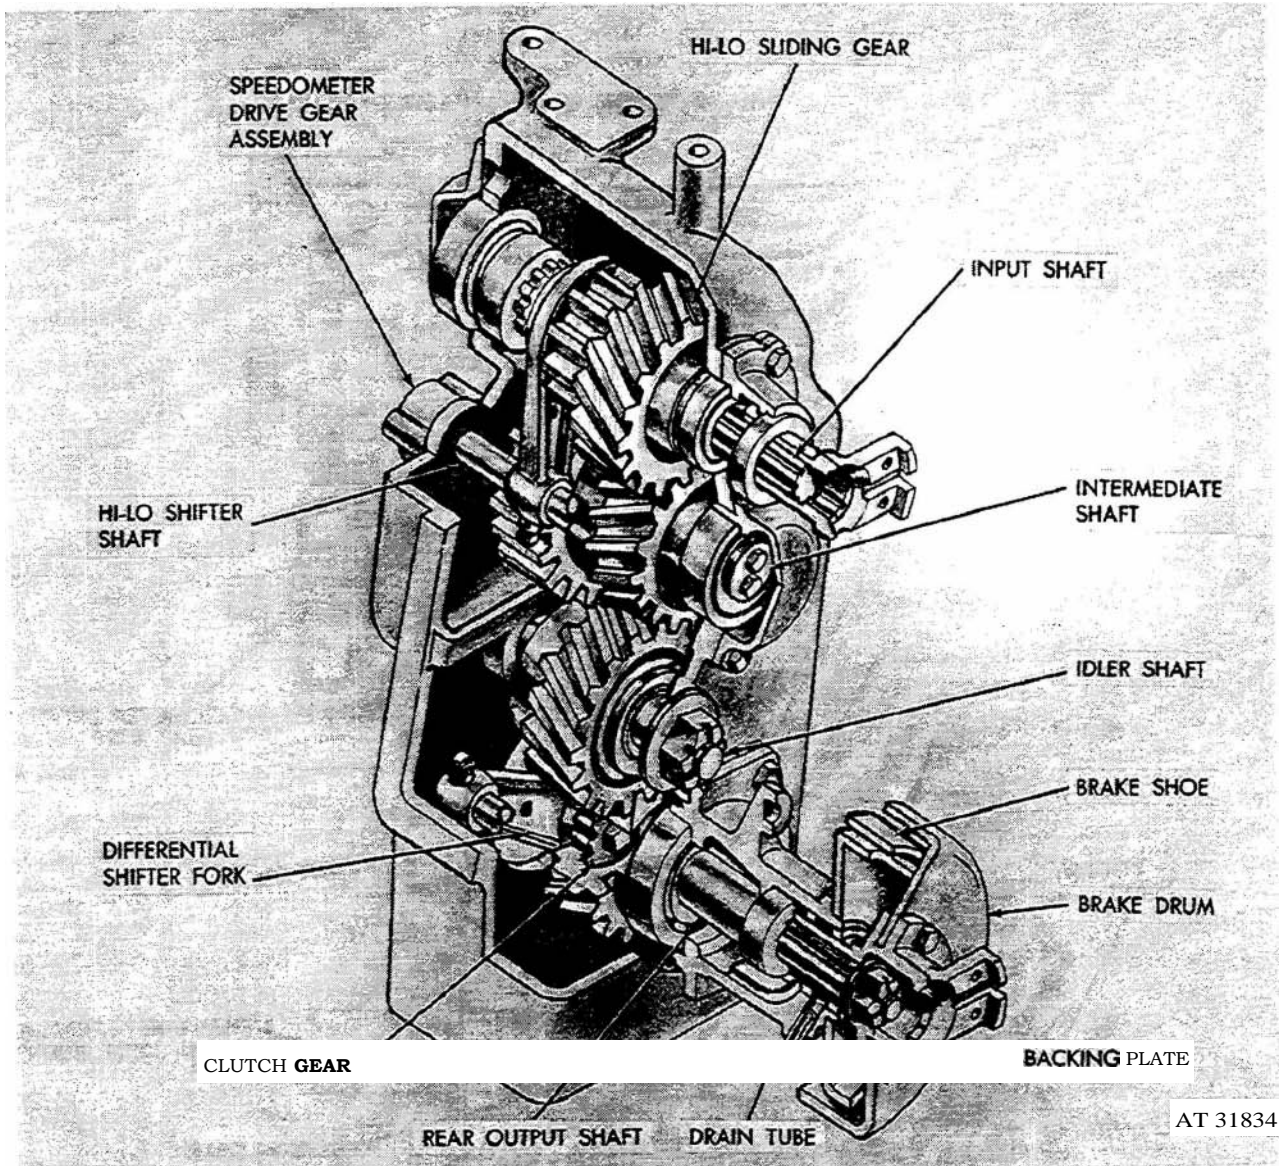

Figure 3-38. Transfer assembly, cross sectional view.
a. The two range manually operated transfer assembly (fig 3-38) is equipped with a differential clutch gear which can be operated by separate shift levers. In addition, it is equipped with an oil pump and speedometer drive gear assembly. The main input and power take-off shafts are mounted on ball bearings. The idler shaft, intermediate shaft, and axle drive shaft are all mounted on roller bearings. All gears are of the helical design except for the two sliding spur gears.